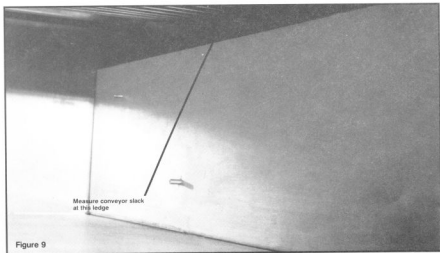

Figure 9
8. Check for proper tension. There should be approximately 3/8" to 3/4" space between the conveyor chain and the ledge on the inside of the unit cavity. (See Figure 9)
Conveyor Chain (RT-2T) See Figures 9 & 10